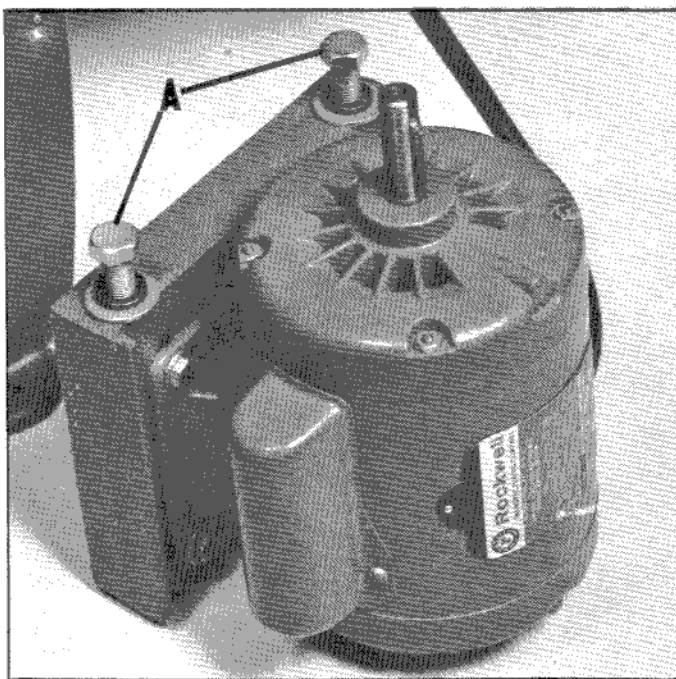

Fig. 7
1. Bolt the motor to the motor mounting plate using the four carriage bolts, washers and nuts supplied, as shown in Fig. 7. Do not tighten the nuts securely at this time.
2. Partially insert cap screws (A), lockwasher and flat washers to top of motor mounting plate, as shown in Fig. 7.